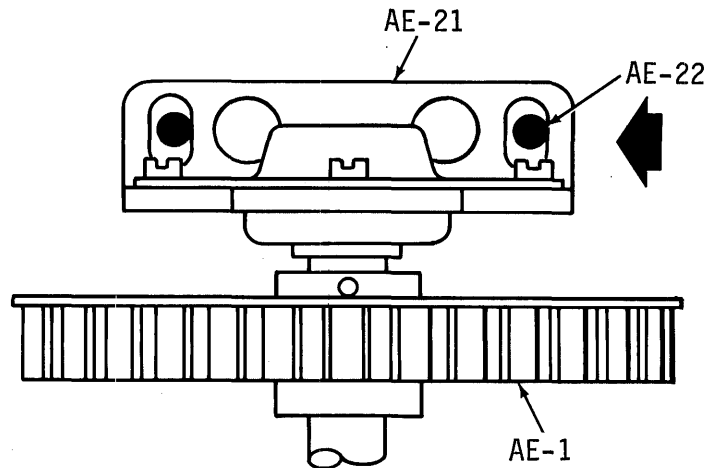

Figure 5-6. LOCATION OF DRIVE PULLEY BRACKET (AE-21)
1. Bracket (AE-21) (Fig. 5-6)
- a. Maintain one back bracket (AE-21) supporting the drive mechanism as far left as possible prior to tightening screws, washers (22), (23). (See Fig. 5-6).